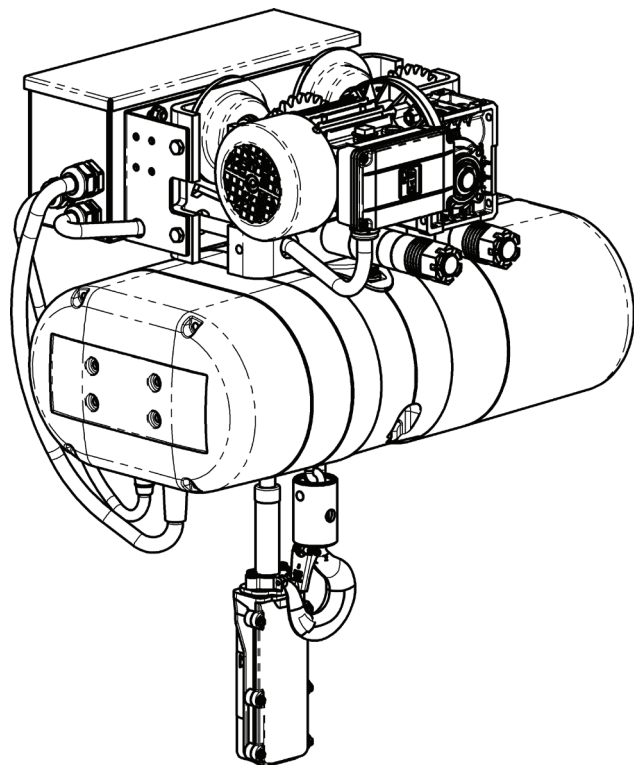

Figure 2. Hoist and Trolley General Arrangement
**See Figure 2.** When viewing the assembly from the enclosure side, the trolley motor cord is at the right end of the enclosure. Note that the cord is routed through the unused suspension pin holes in the sideplates so the cord will not contact the beam. This particular hoist / trolley example requires individual power and control cords. Each cord is mounted to the right end of the enclosure and bottom of the hoist body. Both ends of the enclosure have the same number of holes and knockouts.